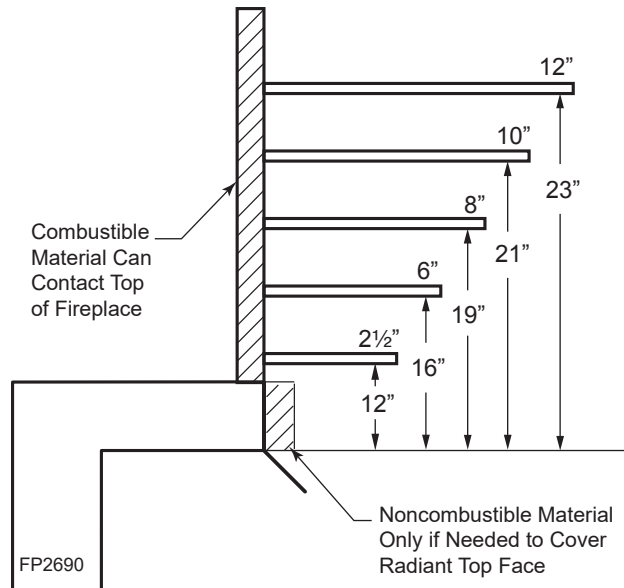
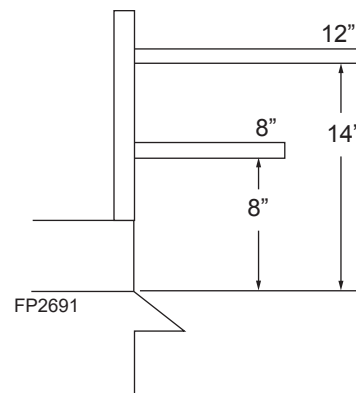

Figure 5 - Mantel Clearances
Figure 6 - Mantel Heights for Wide Profile Canopy
- 4. Mantel clearances:** The canopy supplied with the unit must be installed. If a combustible mantel is installed, it must meet the clearance requirements as shown in *Figure 5*. However, if lower mantel height is desired, refer to Page 14, *Figure 6*.